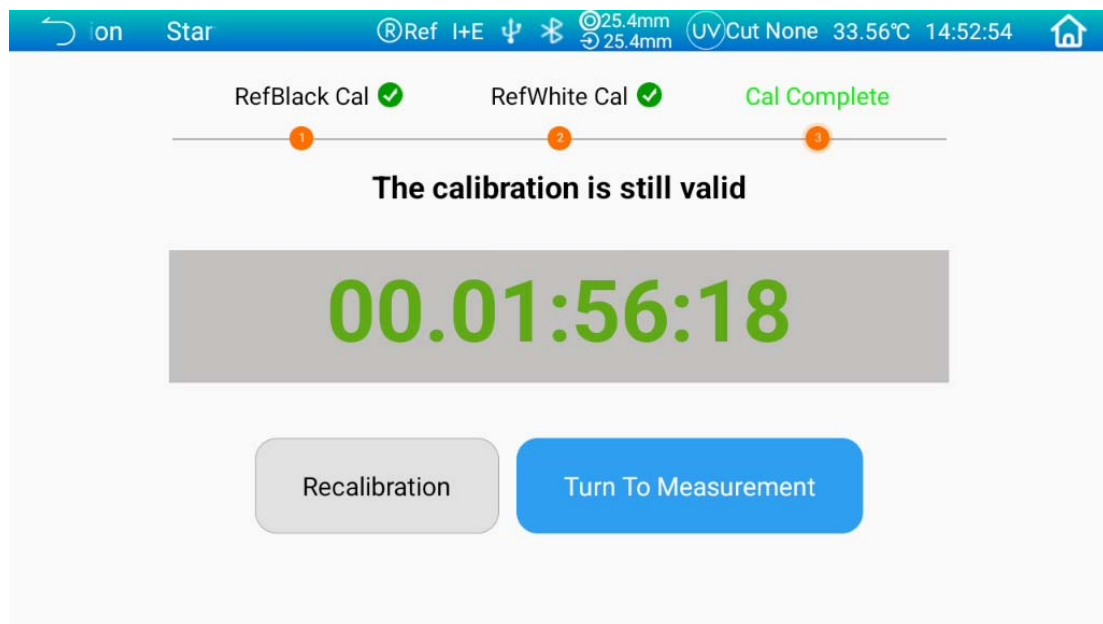

Figure 3 Calibration Page
1. Click "Start Calibration" and enter calibration page(Figure 3)in menu page. It will display if calibration still valid and rest valid time.